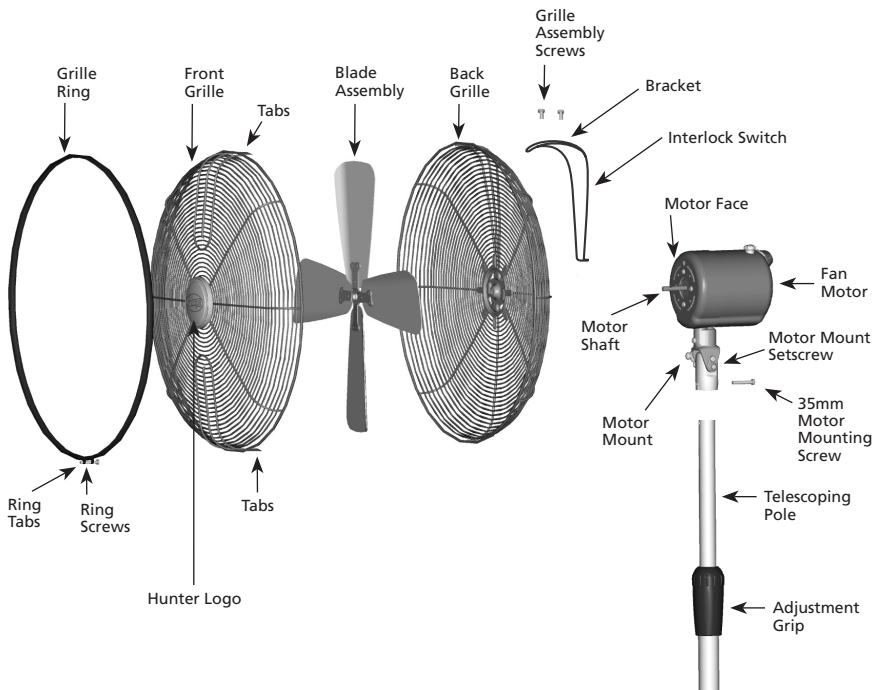

FIGURE 5
16. Hold the fan motor over the telescoping poles and connect the plugs. See Figure 5.